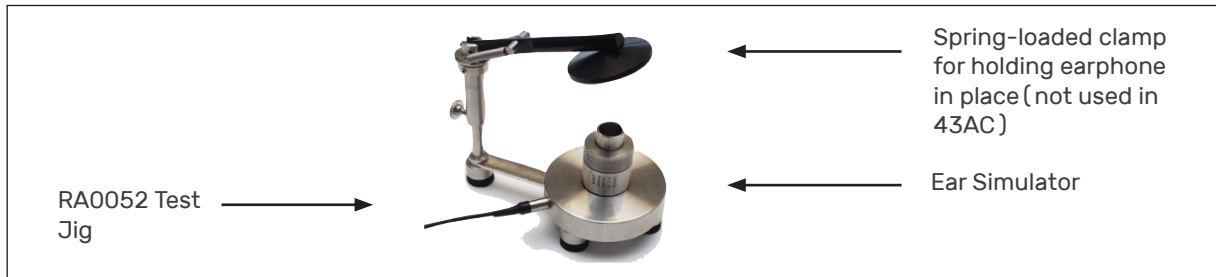

Fig. 1. Assembled 43AC Ear Simulator Kit
- 1) Snap the spring-loaded clamp (see Fig. 1) to its upright position, or remove it.